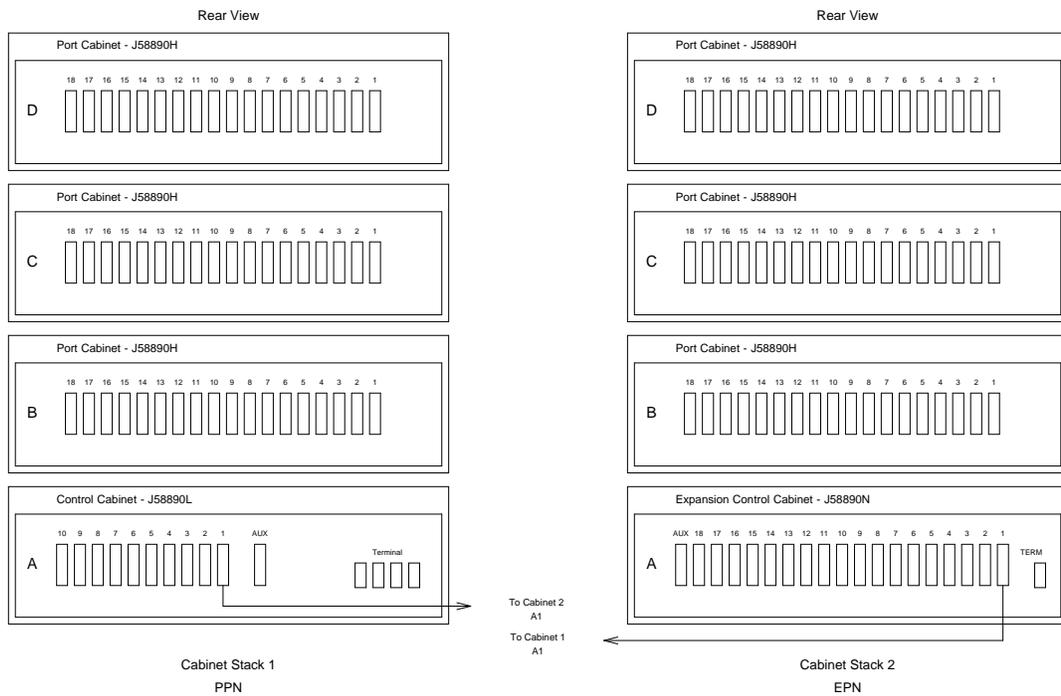
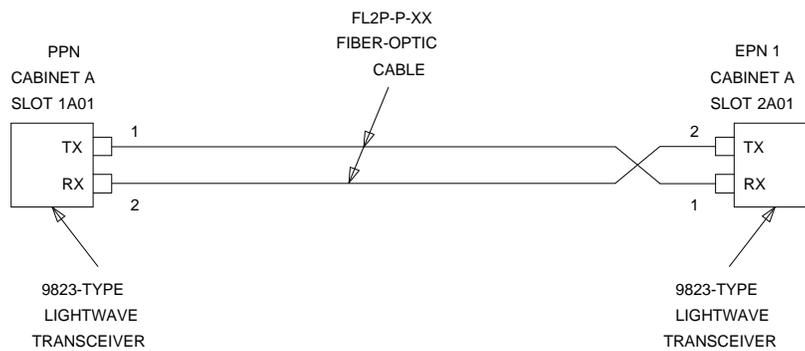
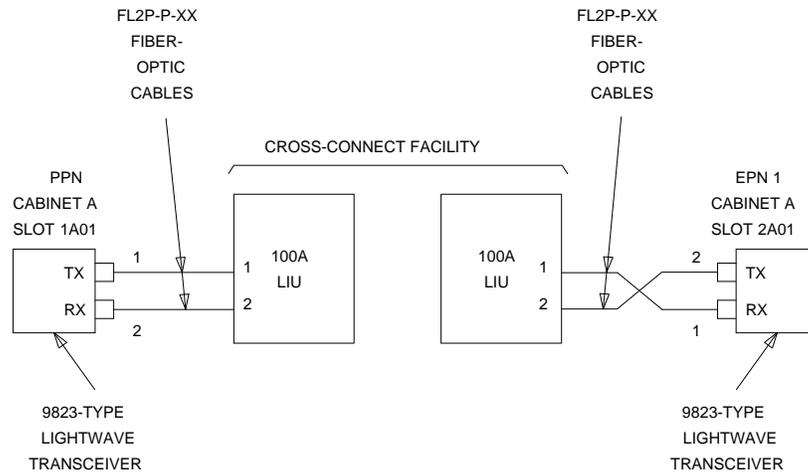

Figure 2-25. Standard-Reliability G3i V4 with Two Port Networks
Figure 2-26. Fiber-Optic Connections PPN to EPN
Figure 2-27. Fiber-Optic Connections PPN to EPN
The connectors on the lightwave transceivers are labeled either "TX" (transmit) or "RX" (receive), while the fibers attached to each connector are numbered either "1" or "2." A viable fiber connection is only made when both fibers in each cable (that is "1" and "2") route from the "TX" connector of a port network to the "RX" connector of its adjacent port network. For an example, refer to Figure 2-26.
1. Behind control cabinet A of the single-carrier PPN (see Figure 2-25 and Figure 2-26):
1. Behind control cabinet A of the single-carrier PPN (Figure 2-25 and Figure 2-27):